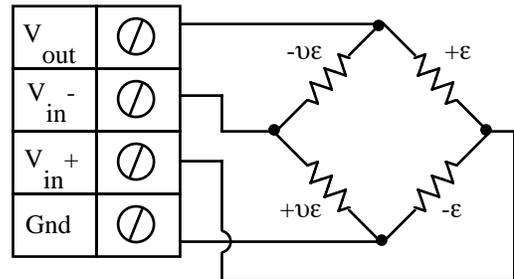
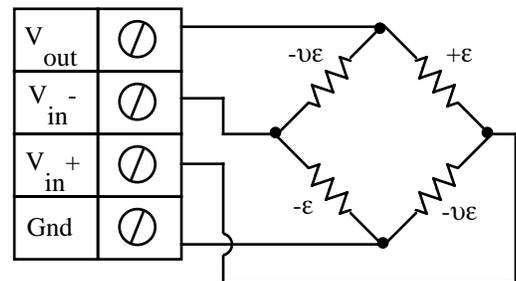

Fig 3.11 - Strain Measurement - Full Bridge Circuit (Axial I)
Fig 3.12 - Strain Measurement - Full Bridge Circuit (Axial II)
Measuring axial strain using a full bridge configuration involves wiring four strain gages as shown in either figure 3.11 or figure 3.12, applying a voltage across the bridge, and measuring the voltage across the two intermediate bridge nodes via a pair of instruNet Vin+ and Vin- input terminals. The excitation voltage for the bridge is supplied by either the instruNet Vout terminal or by an external voltage source. instruNet calculates the value of the strain, returning "strain" engineering units, using the equations:
4. Wire your voltage source per figure 3.11, and refer to the steps at the beginning of this chapter for more information on how to set up your
Measuring axial strain using a full bridge configuration involves wiring four strain gages as shown in figure 3.12, applying a voltage across the bridge, and measuring the voltage across the two intermediate bridge nodes via a pair of instruNet  $V_{\text{in}+}$  and  $V_{\text{in}-}$  input terminals. The excitation voltage for the bridge is supplied by either the instruNet  $V_{\text{out}}$  terminal or by an external voltage source. instruNet calculates the value of the strain, returning "strain" engineering units, using the equations:
4. Wire your voltage source per figure 3.12, and refer to the steps at the beginning of this chapter for more information on how to set up your sensor.5,10